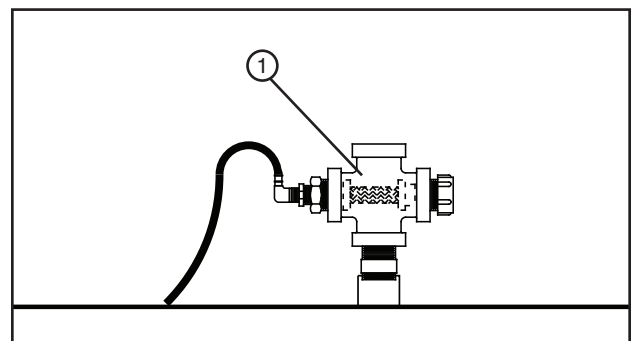

Figure 105-2 1. Cross Filter
- Clean the end gun shut off solenoid valve cross filter or optional dirty water filter. See figures 105-2 and 105-3.